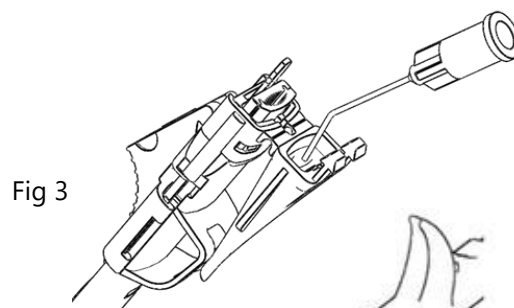

Fig 3
- Inject viscoelastic material into the cartridge nozzle from the back side, as shown in Fig. 3